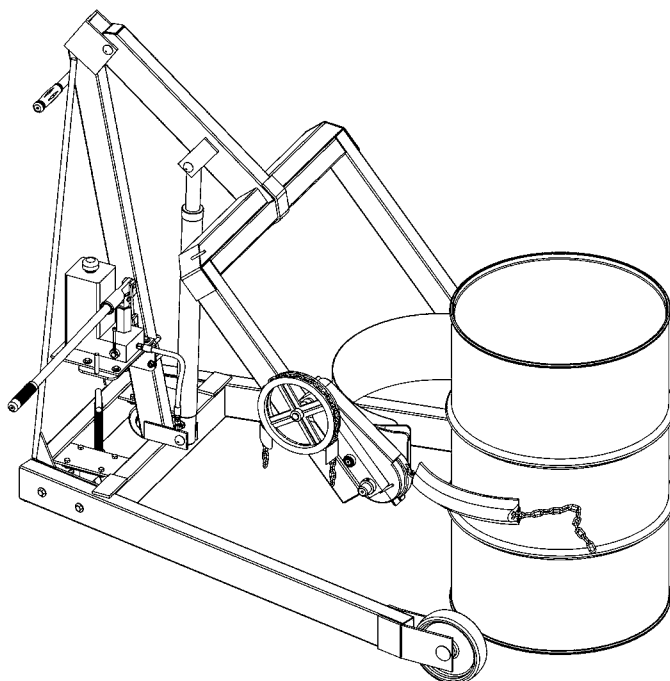

Figure 3.1
2. Using the "LIFT" control as described in "Machine Description - Controls", position the drum holder assembly with the back band at the middle of the drum (Figure 3.1). With the ratchet plate swung open and the cinch chain hanging from the chain hook, push the unit until the back band rests firmly against the drum. Some adjustment to the tilt angle of the saddle may be necessary to ensure band fits flush on the drum.